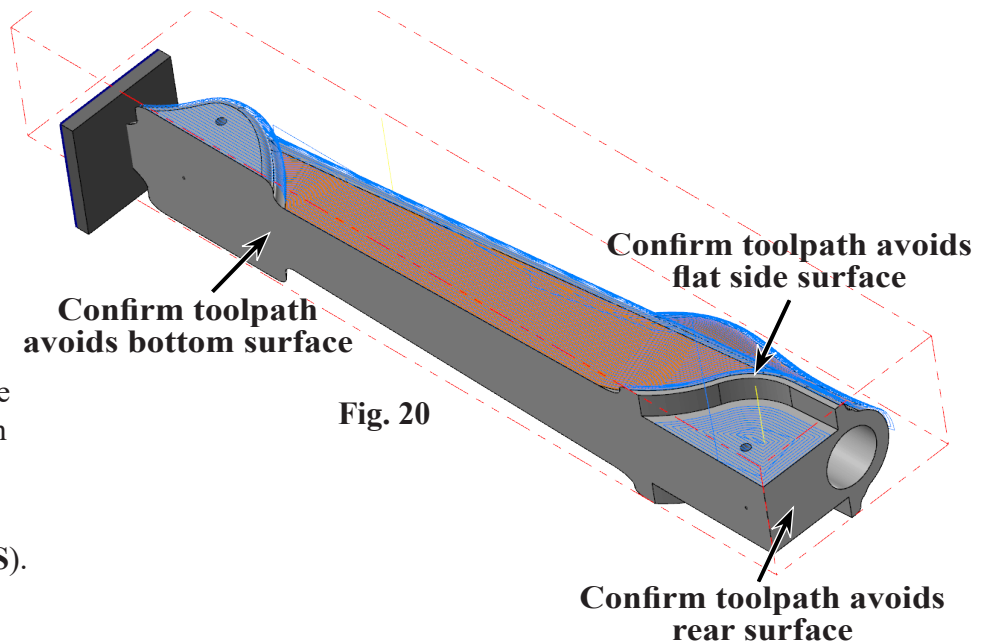

Fig. 20
Step 21. Confirm **tool-path avoids flat side surface at wheel well, bottom and rear surfaces. Toolpath should not pass across the cartridge hole, Fig. 20.** Use **Alt-T** to toggle on toolpath display.